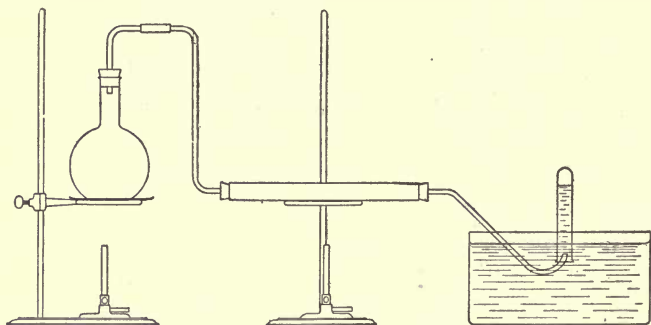

FIG. 1.
7. Arrange an apparatus as shown in Fig. 1. The flask contains 100 cc. of water and a few pieces of broken tile or pumice to prevent "bumping." The iron tube should be partially filled with iron filings. Make all connections tight.